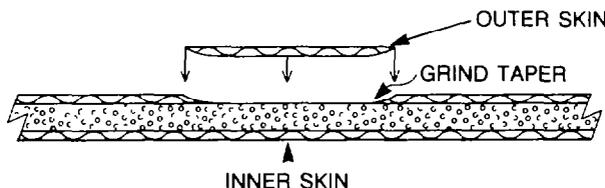

Figure 10 — Structural Damage to Outer Fibreglass Skin Only
- a. Using a hand grinder with sanding discs, grind out all the weakened fibreglass around the damaged area. Increase the size of the hole approximately 5-8 cm (refer to Fig. 10).